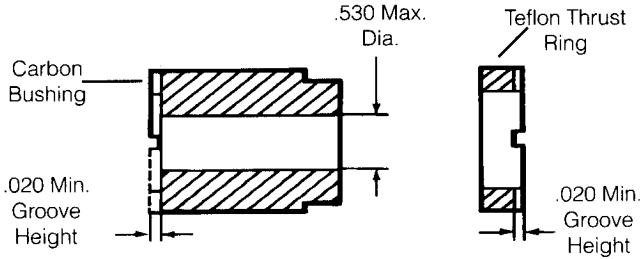

Figure 4
1. Check the impeller drive bushing (item 18), thrust ring (item 20), ceramic thrust ring and shaft for cracks, chips, scoring or excess wear. See Figure 4. Replace as required.